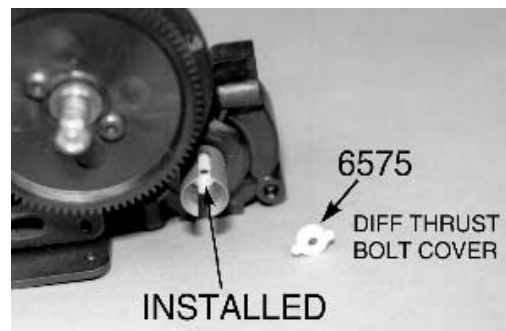

Fig. 79
□ **Fig. 79** Back in fig. 46 we set aside the #6575 nylon diff thrust bolt cover (looks like a thin version of the #6575 T-nut without the steel insert). We are now going to install this into the right (passenger side) diff outdrive. This is used to cover the head of the diff bolt and to help keep dirt out of the thrust bearing assembly. It still allows you to check your diff adjustment without taking the cover out each time.